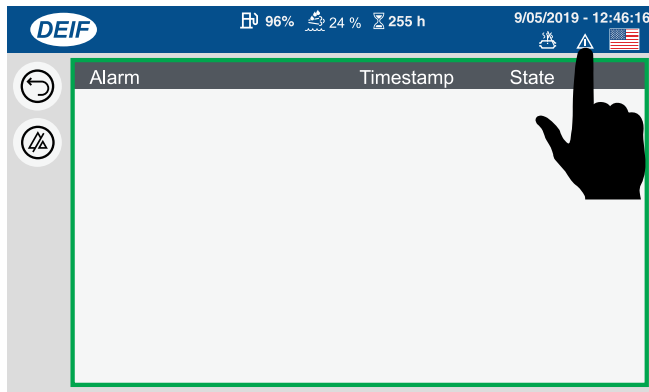

Figure 206. Alarm Screen (Alarm Icon Button)
2. Press the **X button** (Figure 205) on the pop-up screen to close the pop-up and view the **Alarm screen** (Figure 206).
3. Press the **Alarm Icon button** (Figure 206) located in the upper right-hand corner of the Alarm screen to view a list of active alarms.
6. Press the **Alarm Icon button** (Figure 206) whenever it is present on the status bar to identify specific alarms that are active. Perform steps 1–5 to clear any alarms that may appear during operation. Refer to Table 16 for a complete list of fault codes.